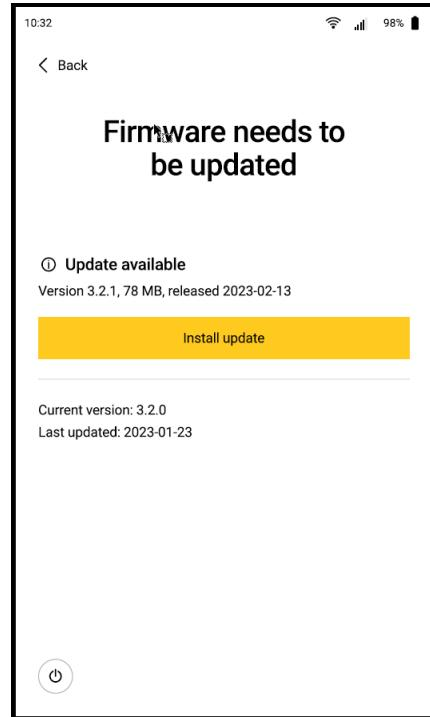

Fig. 07
- The system checks whether a firmware update is available. (Fig. 07)